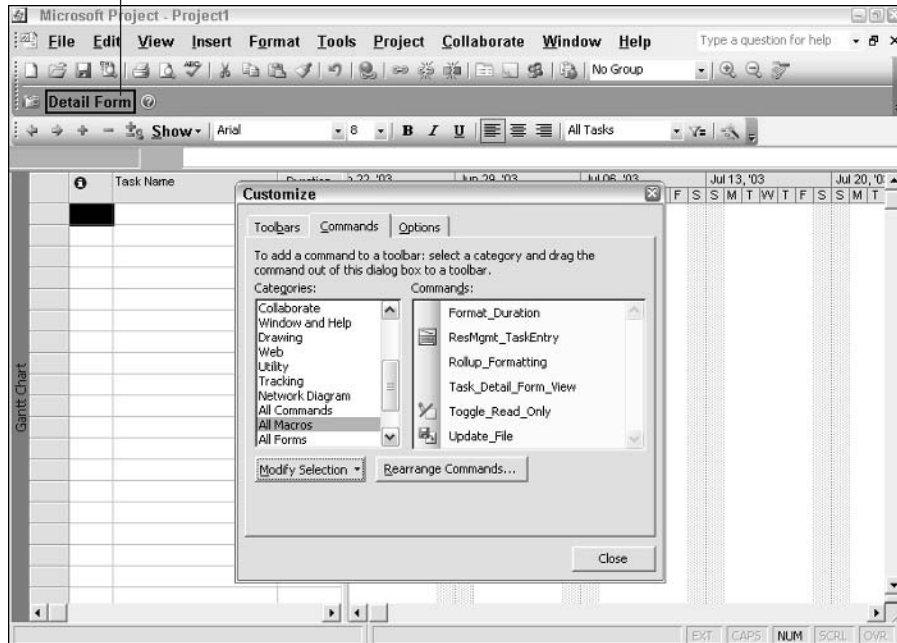

Figure 24-10: I renamed the toolbar button Detail Form.
9. Press **Enter**. The pop-up menu disappears, and Project renames the macro toolbar button, as shown in Figure 24-10.